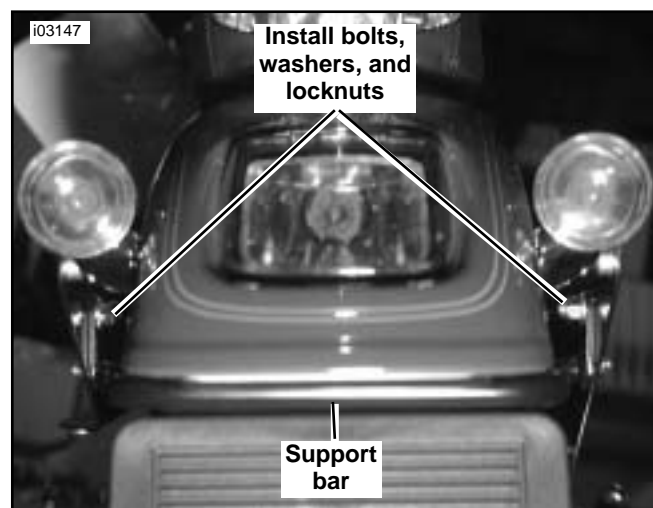

Figure 18. Rear Support-Bar Installation
12. See Figure 18. Install the rear support bar (Part Number 68367-00), from this kit, to span from the inside of one saddlebag support plate, over the license-plate bracket (between the bracket and fender), to the other support plate. The holes in the support-bar plates must align with the holes in both left- and right-side saddlebag-support plates.